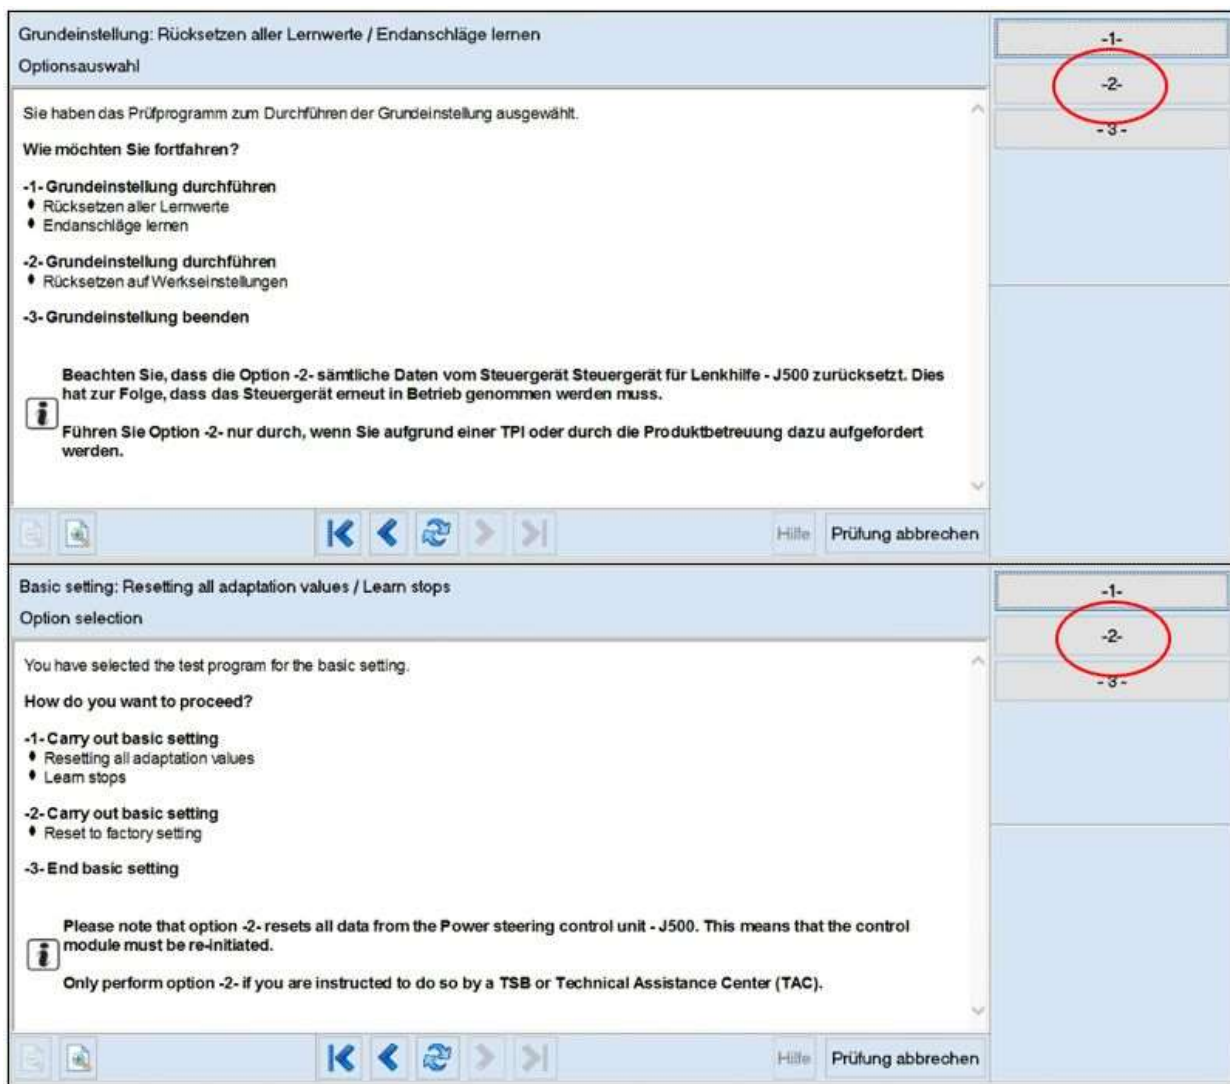

Figure 1: J500 factory settings reset – Guided Functions.
- Select option “2” as shown in the picture (Figure 1).